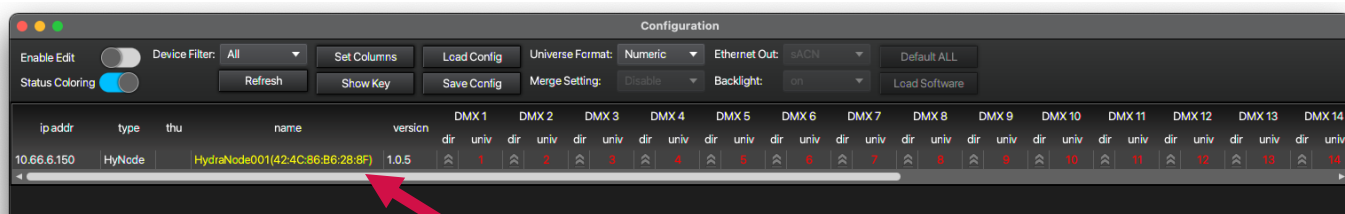

Figure 1 Status Coloring
Step 3. The connected HydraNode will be displayed. Confirm the current software version. If Status Coloring is enabled, the device name will be colored yellow if the software needs to be updated; see Figure 1.